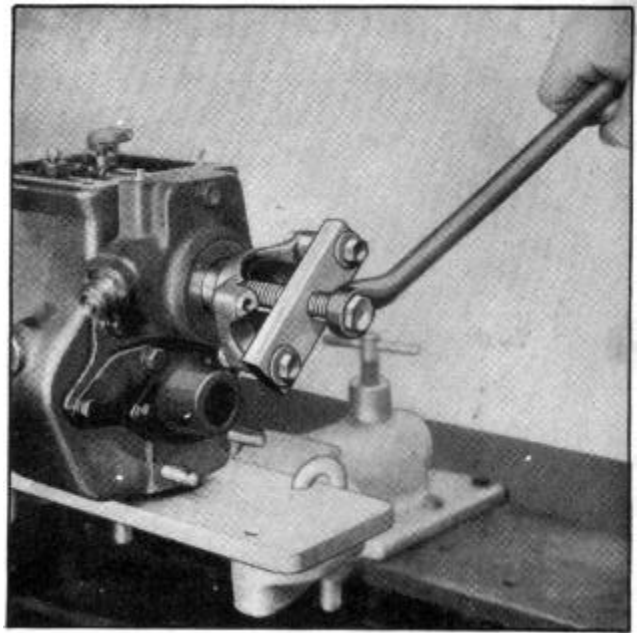

Figure 4--Removing Companion Flange Using J-820 Companion Flange Puller
23. Remove cap screw (62) from rear end of mainshaft and take off front universal joint companion flange using flange puller J-820, see Figure 4.